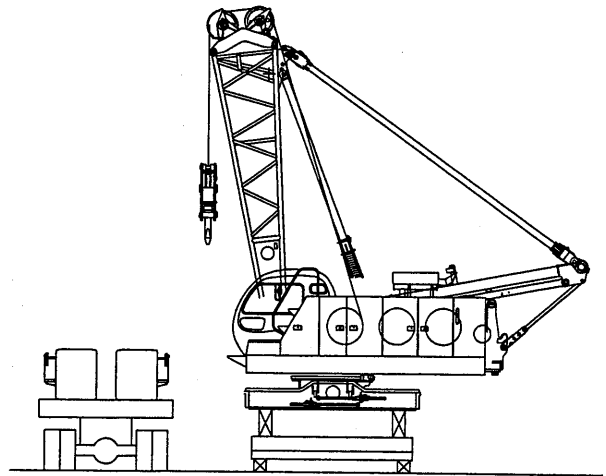

Fig. 11-30
- (1) Place a trailer for transporting crawlers beside the machine.
- (2) Carefully swing so that the upper structure is vertical to the crawlers. The front of the machine (operator's cab side) must be directed to the side of crawler which will be installed. (Fig. 11-30)